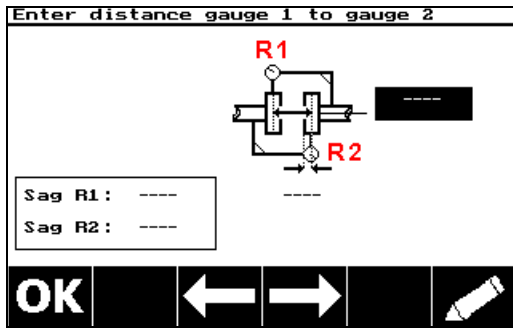

Figure 6
7) Key in the distance between rim indicator stems R1 and R2 and confirm with . (See Figure 6).